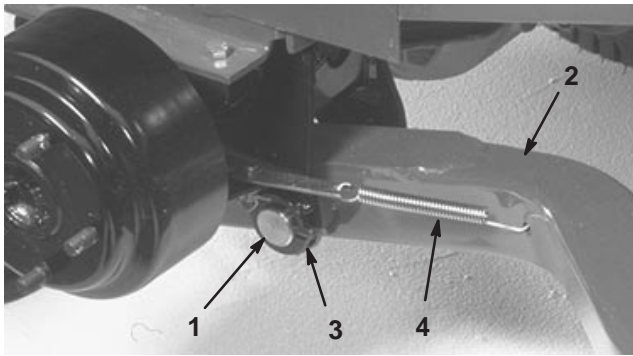

Figure 3
4. Mount a lift arm to the pivot bracket with a pivot pin and cotter pin (5/32 x 1-3/4 in.) (Fig. 3). Mount the lift arm with the ball joint end positioned outward.
6. Hook the brake return spring to the hole in the lift arm (Fig. 3).